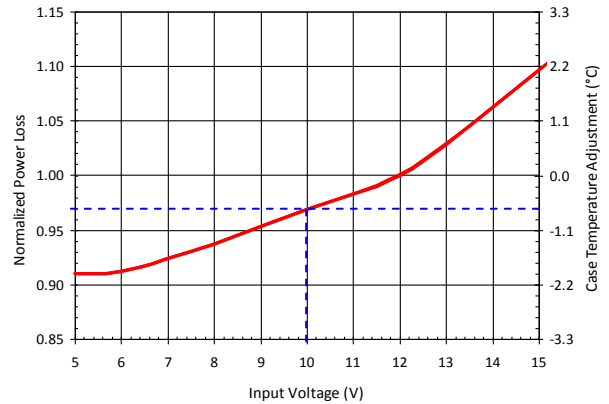

Figure 11: Normalized Power Loss vs. Input Voltage
- 2) Determine the input voltage normalizing factor with $V_{IN}=10V$, which is 0.97 based on the dashed lines in Figure 11.